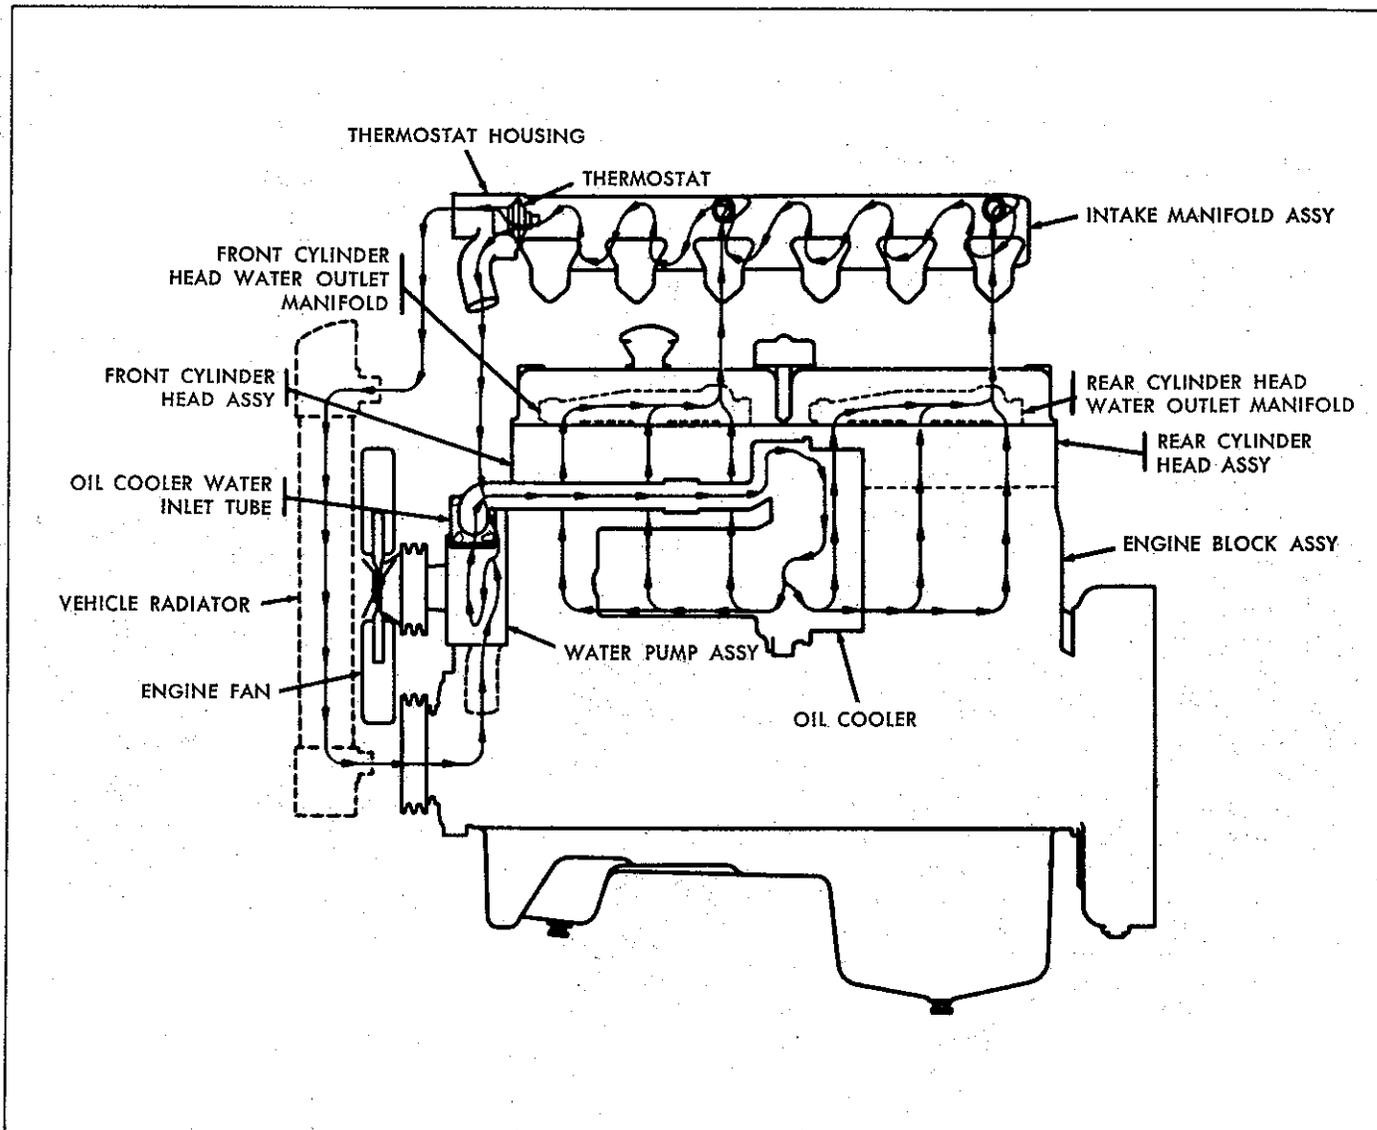

Figure 3. LDS-465-1 Engine Cooling System Diagram
e. Coolant System. (Figure 3) A balanced water manifold type of coolant system is another important feature of this engine. Coolant is circulated by the belt-driven coolant pump through the oil cooler, and hence, through the crankcase block water jacket where it flows around the cylinder walls and then into the cylinder heads. After circulating through the cylinder heads it flows into the water header manifold. The function of the water header manifold is to maintain an equal distribution of the coolant around each cylinder head, thereby eliminating any "hot spots" or unequal thermal stresses. The coolant then flows from the water header manifold to the jacket of the intake manifold and finally to the bypass thermostat housing where the thermostat controls the coolant flow to the radiator. The six-bladed fan, mounted on the pump shaft, provides the proper air circulation through the coolant radiator.